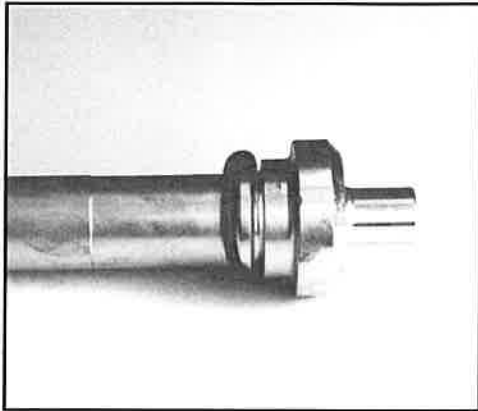

FIG. 24: INSTALL O-RING
4. Install the o-ring into the groove near the back of the chisel (see Fig. 24).